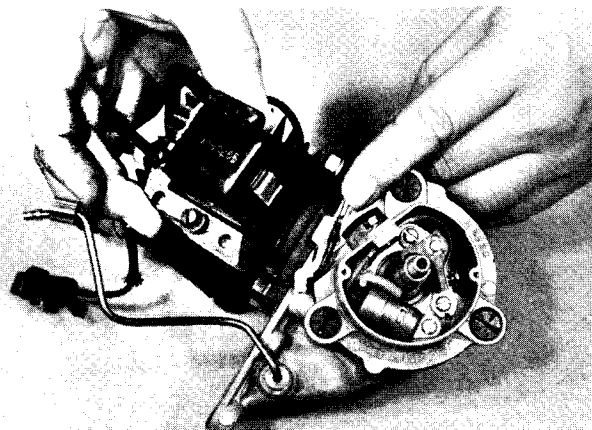

Fig. 33 — Removing Coil Assembly
11. Unhook coil wire and remove coil assembly, Fig. 33.
13. Position coil on cylinder, hold up, away from crankshaft, and lightly tighten screws. Position wire in groove, Fig. 33. Mounting screws on coil will be tightened later when flywheel is installed.